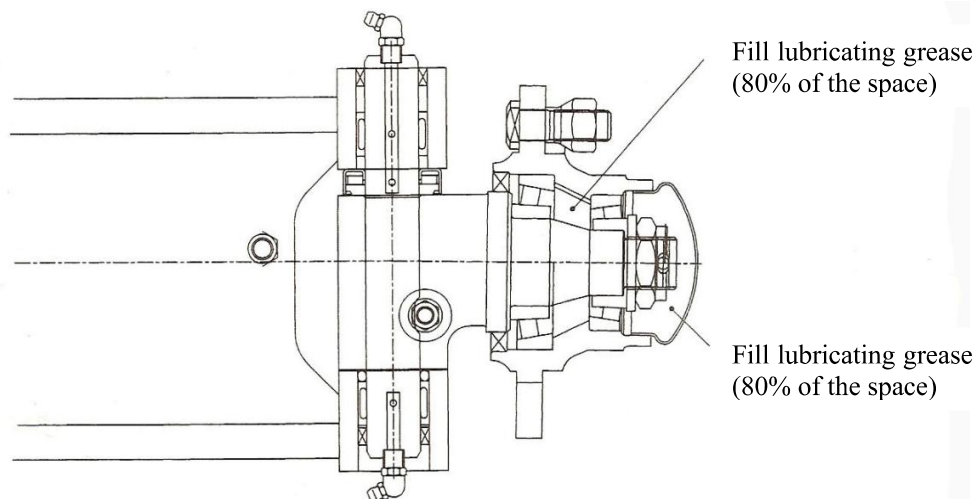

Fig. 3-5 Fill lubricating grease and pre-load adjustment
- (1) As shown in Fig. 3-5, fill up the chamber formed by wheel hubs, wheel hub bearings and wheel hub covers with lubricating grease. Coat the lips of the oil seals with lubricating grease.
- (2) Press the hub bearing into the hub and fit the hub on the knuckle shaft.
- (3) Fit a flat washer and tighten a castle nut to a torque of 206-235Nm (21-24kgm) and loosen it, and then tighten it again to a torque of 9.8Nm (1kgm).
- (4) To ensure firm installation of the hub, slightly knock at it with a wooden hammer and